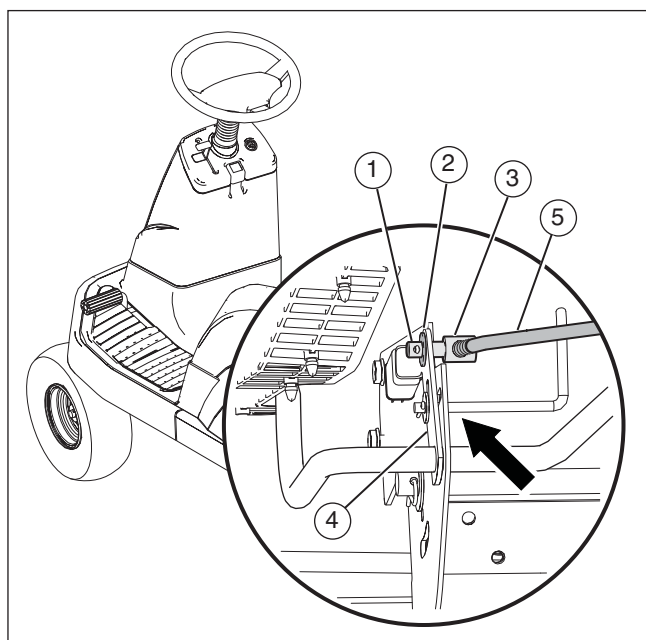

Figure 22
2. Remove the cotter pin (1) and washer (2) from the adjustable nut (3) (see **Figure 22**).